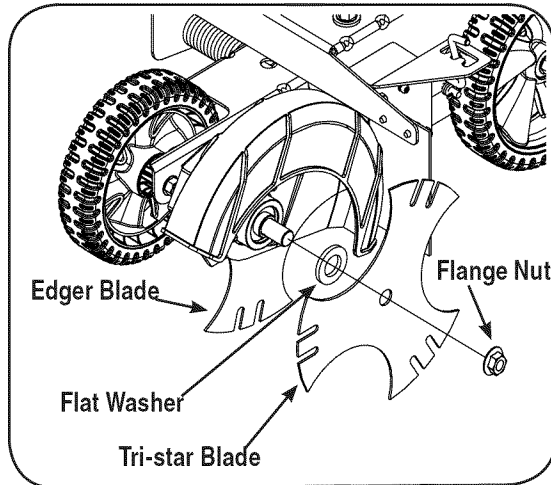

Figure 5-7: The optional Tri-star blade and washer.
5. Install the Tri-star edger blade and the flat washer, Figure 5-7.